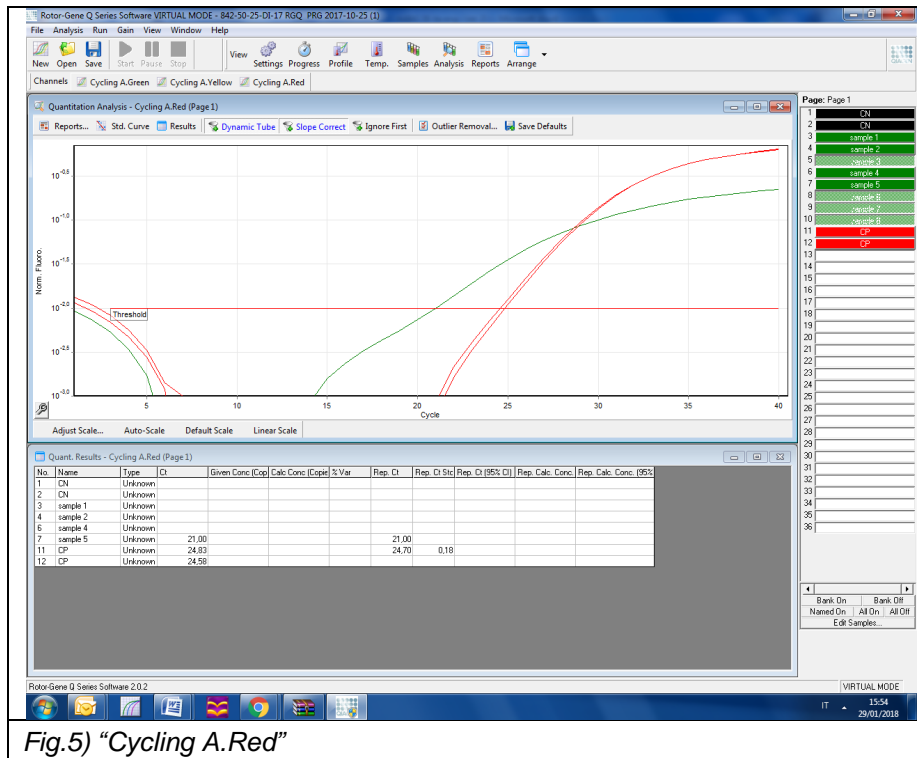

Fig.5) "Cycling A.Red"
- Select "Analysis", "Quantitation", then select the channel of interest: "Cycling A.Green", "Cycling A.Yellow" (fig. 4) or "Cycling A.Red (fig. 5), "Show".